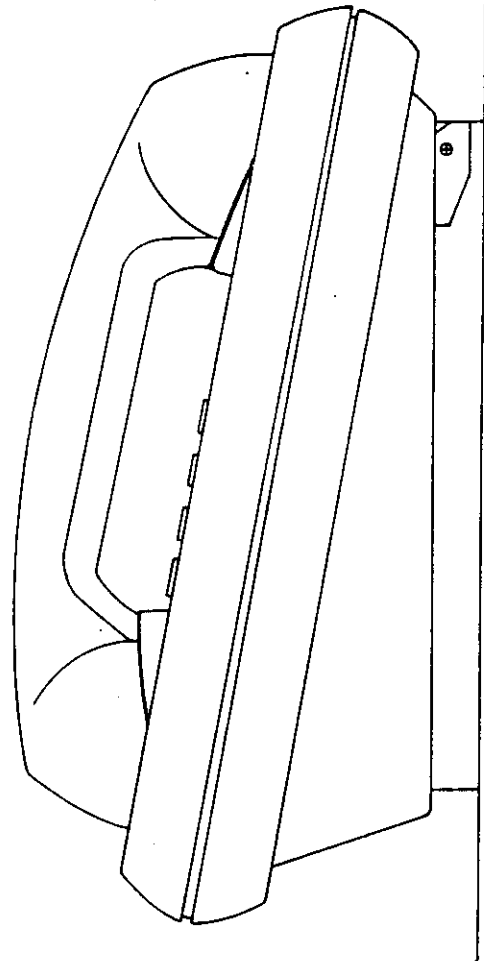

FIGURE 3—EKTW MOUNTED ON WALL MOUNTING PLATE
3.2 To secure the EKTW on the mounting plate, press the locking-tabs flush against the wall mounting plate's raised edges. See **Figure 3**.